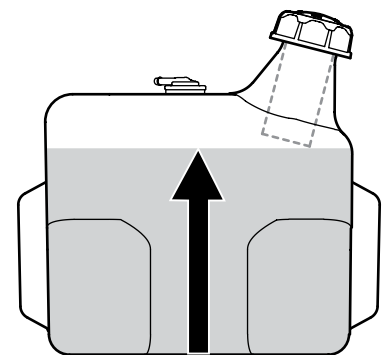

Figure 2-10
2. Fill the fuel tank with gasoline. Use only clean, fresh (no more than 30 days old), unleaded gasoline. Fill tank to no more than 1/2" below bottom of filler neck to allow space for fuel expansion. See Figure 2-10.
**IMPORTANT:** Do not overfill the tank. Fill tank to no more than 1/2" below bottom of filler neck to allow space for fuel expansion. See Figure 2-10.